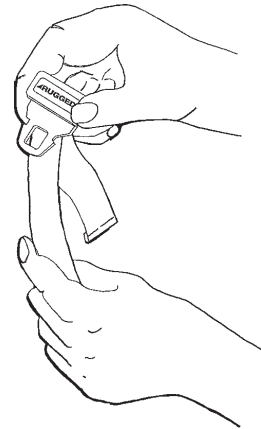

Figure 20 - Lengthening the Safety Restraint
1. Grasp the buckle latch plate, turn it at an angle to the webbing, then pull it out (Figure 20).